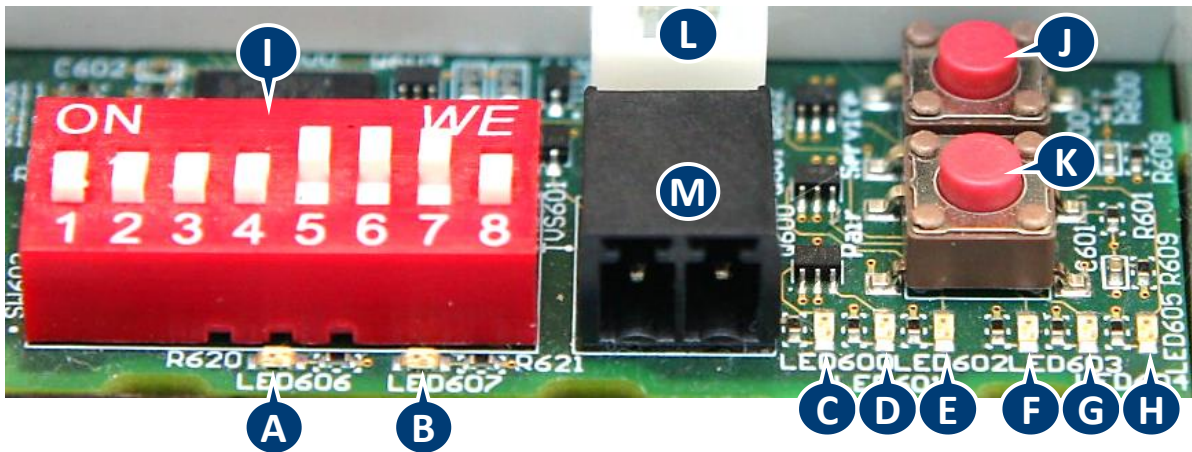

Figure 3
- The red LED 602, figure 3 LED-E, flashes
- You can exit the procedure at any time by pressing the SET-UP button for at least 5 seconds until the yellow LED 601, figure 3 LED-D, flashes.
- The yellow LED 601, figure 3 LED-D, on the EC flashes.
- The yellow LED 601, figure 3 LED-D, lights up solid for 3 seconds and then starts flashing again.
- After a while the green LED 600, figure 3 LED-C, lights up. The EC is ready for calibration.
! If the red LED 602, figure 3 LED-E, lights up, something has gone wrong. Restart the procedure by pressing the SET-UP button for 5 seconds; see step 3.1.3
- The green LED 603, figure 3 LED-F, lights up solid.